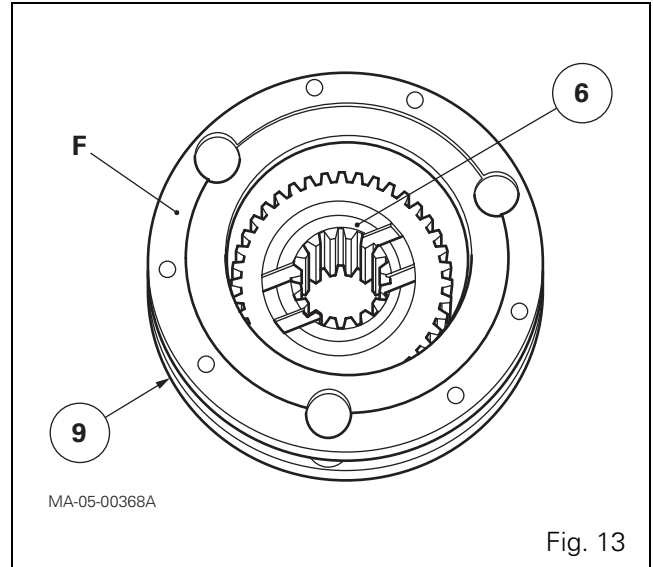

Fig. 13
32. Put the output sun gear (6) in the gearbox (9), turning the sun gear lubricating grooves towards side "F" of the unit (Fig. 13).
33. Install the needle bearings (16), with a spacer (14) inserted in a pinion gear (12).